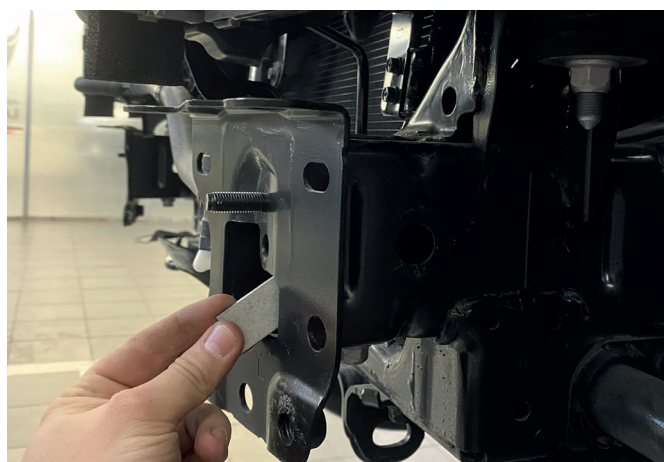

Fig.17
17. Install insert nuts M10 (item B) into hole of OE frame as shown in fig.17, on both sides of the vehicle.